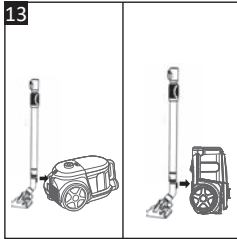

Fig. 13
- Press the Telescopic tube release button (21) to retract the tube before parking.
- **Horizontal parking position** – Slide the tab on the neck of the floor brush (17) into the parking slot on the back of the vacuum cleaner as illustrated (Fig. 13).
- **Vertical parking position** – Stand the vacuum cleaner upright and slide the tab on the neck of the floor brush (17) into the parking slot on the bottom of the vacuum cleaner as illustrated (Fig. 13).